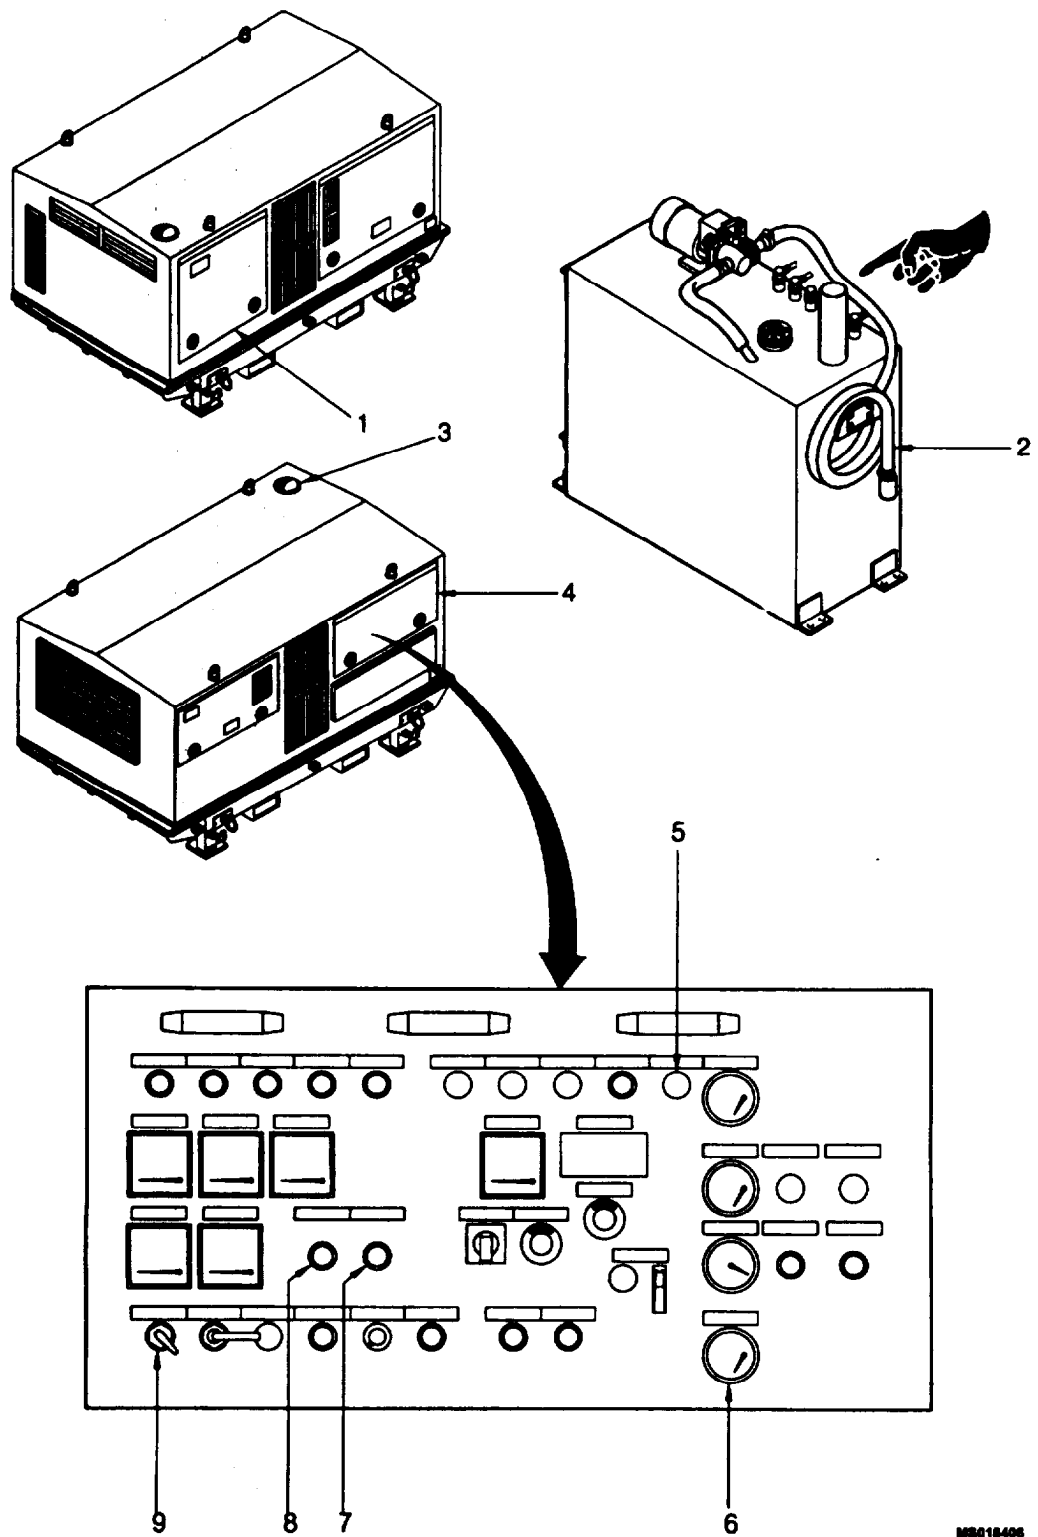

Figure 2-10 Refueling.
If the LOW FUEL lamp (5, figure 2-10) lights up during operation, re-
1. Open flaps (1 and 4, figure 2-10) and turn MASTER SWITCH (9) ON.
2. Uncoil fuel hose (2) from its holder on the tank, and immerse the lower end in the storage tank.
3. Press FUEL TANK PUMP ON illuminated pushbutton switch (7):
1. Open flap (4, figure 2-10) and turn MASTER SWITCH (9) ON
2. Unscrew tank cap (3).
4. Have a second person monitor and call out the fuel level from the FUEL LEVEL meter (6).